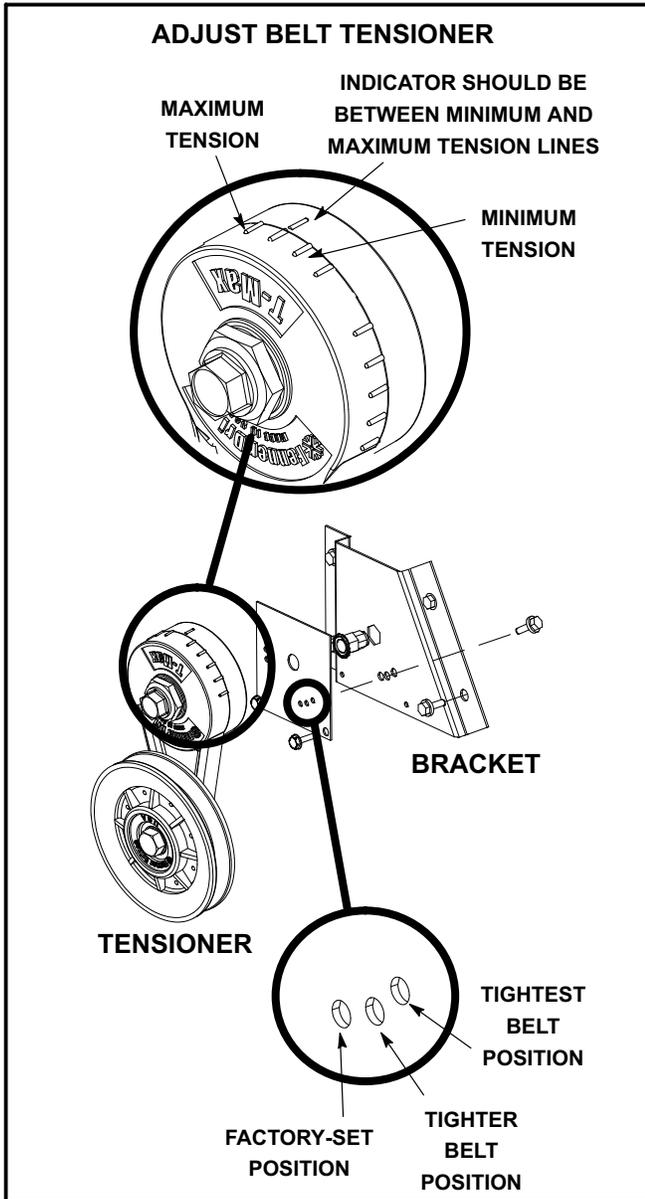

FIGURE 12
- 2- Remove bracket from blower housing. See figure 12.